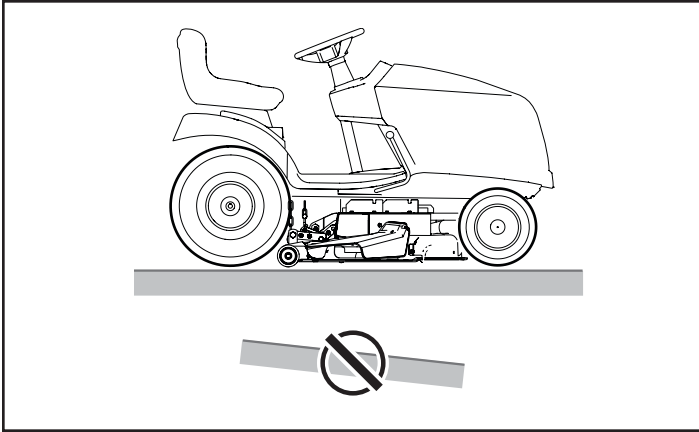

Figure 4
1. Place the tractor on a level surface (see Figure 4).